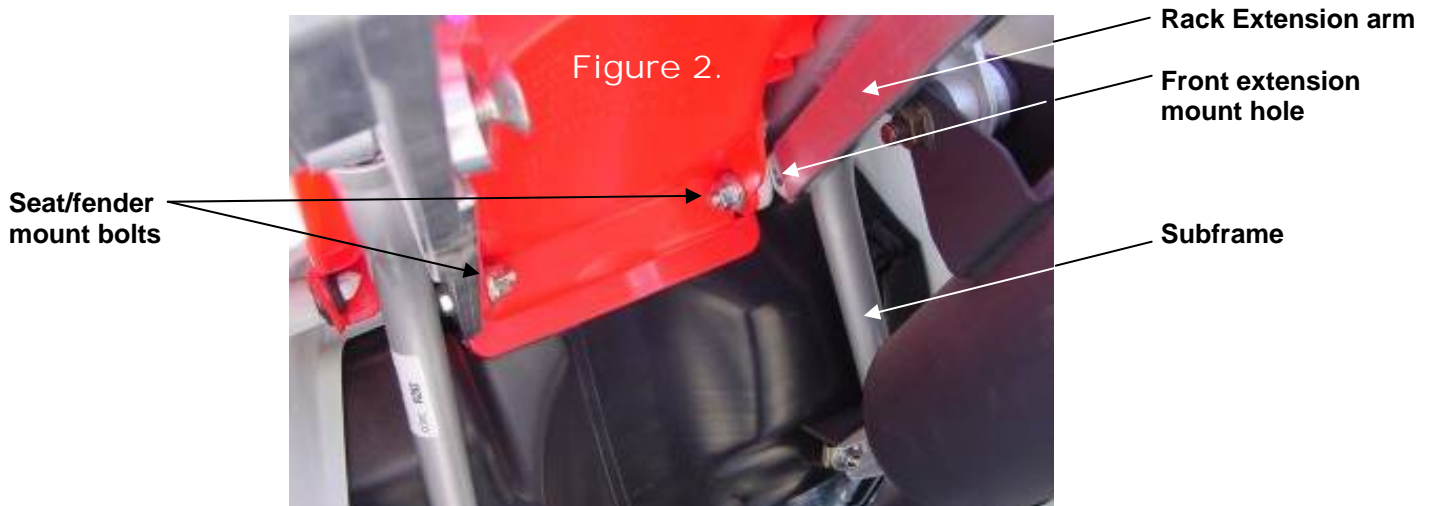

Figure 2.
2. Remove the two (2) seat/fender bolts. (See Figure 2.)
4. Attach loosely the left and right extension arms to rack sides using one (1) spacer and two (2) supplied M6 X 35mm long flat head bolts per side.
6. Starting at the rear of the fender, slide the rack into place so that the extension arms are on the inside of the subframe, and, the front extension mount holes line up with seat/fender mount bolt (See Figure 2).